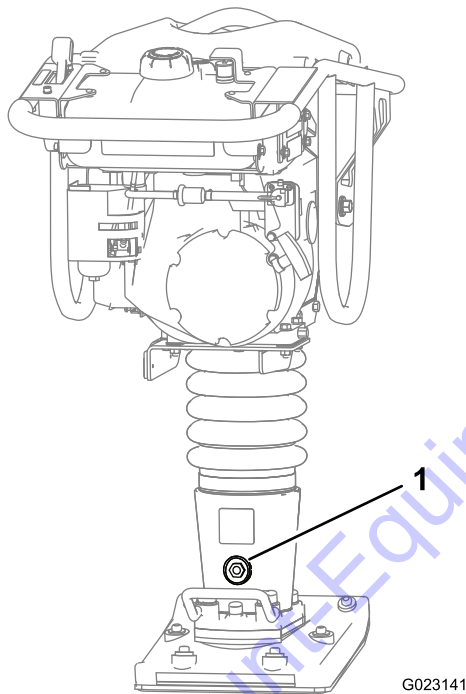

Figure 11
2. Check the oil sight plug (Figure 11), and ensure that the oil level is halfway between the top and bottom of the oil sight plug.